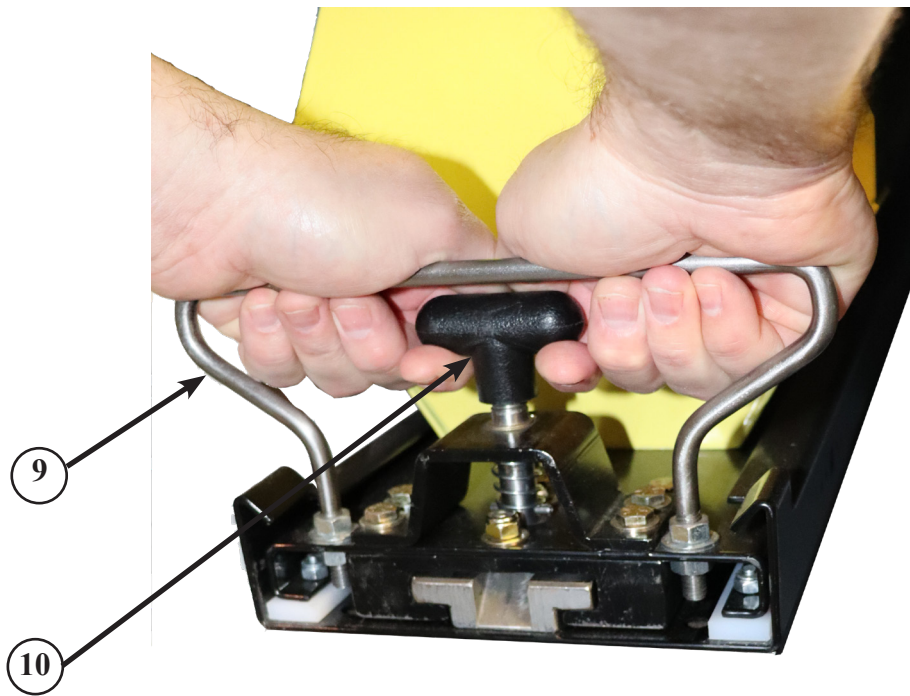

Figure 5
1. Pull up the "T" Handle (10) to unlock the lock pin (11). Use the Handle (9) to pull out the Main Slider (2) and allow for the Slider to fold down and rest on the ground. See Figure 5
1. Pull up the "T" handle(10) to unlock the lock pin(11). Use the Handle (9) to pull out the Main Slider (2) and allow for the Main Slider to fold down and rest on the ground. See Figure 5